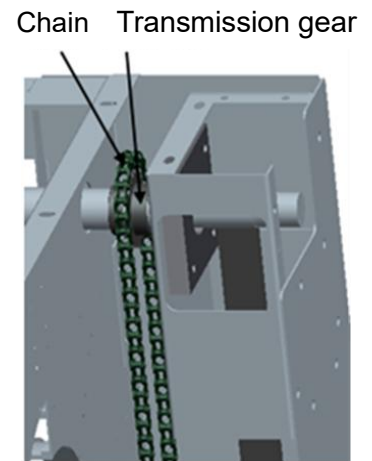

Figure 3-1
3.2.1 Hanging the chain on the transmission gear of the spiral mechanism. As shown in Figure 3-1.